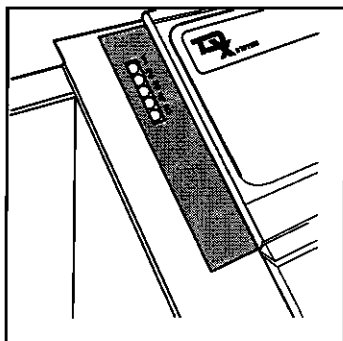

Figure 2.2
Step 1 - Remove the buffer panel and verify that the five power supply lights are illuminated. See Figure 2.2. (Refer to Section VI, Troubleshooting, under Observed Problems if a light is not on.)